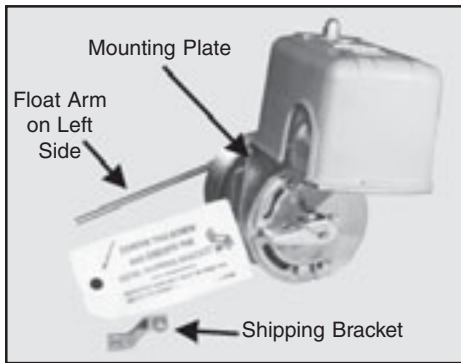

FIGURE 3—Float Switch
- B. Remove shipping brackets on float switches. Per instructions on tag attached to float switch, remove shipping bracket (See Figure 3) from each float switch or mechanical alternator as per manufacturer's instructions. The float switch has been factory set for maximum capacity of the receiver. Should an alternate setting be required, refer to the float switch manufacturer's instructions. If needed, reference Technical Articles section on the SHIPCO® website (www.shipcopumps.com) for detailed instructions on how to adjust a float switch or mechanical alternator: